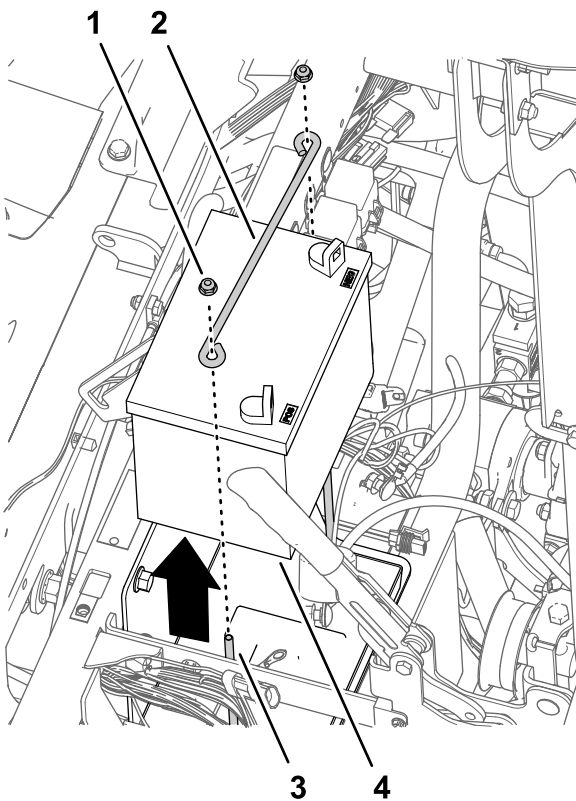

Figure 169
4. Install the cover that you removed in step 2 of Removing the Steering Wheel (page 69) onto the steering wheel (Figure 169).
1. Remove the 2 flange locknuts and hold-down rod from the 2 J-bolts that secure the battery to the battery bracket of the machine (Figure 169).
2. Remove the battery from the machine (Figure 169).